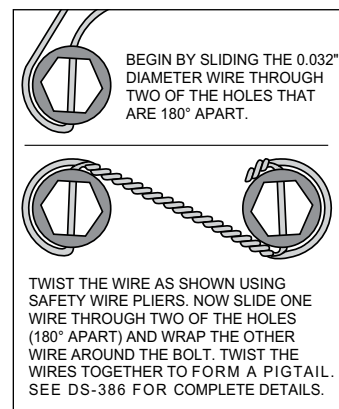

Figure 3.
(20). Apply red *Loctite*® 271 to the bolt threads and torque to value shown in Figure 1 using a criss-cross pattern. For an added measure of security, the bolts may be safety wired using standard 0.032 inch diameter stainless steel safety wire as shown in Figure 3. Refer to Wilwood's data sheet DS-386 (available at [www.wilwood.com/Pdf/DataSheets/ds386.pdf](http://www.wilwood.com/Pdf/DataSheets/ds386.pdf)) for complete safety wire installation instructions.
**STEP 8** Slide the rotor/hat assembly (17/18) onto the hub (10). **NOTE:** *The hat must fit flush against the hub face or excessive rotor run out may result.* Install rotor locator screws (21) to keep the rotor/hat assembly in place while continuing with the installation.